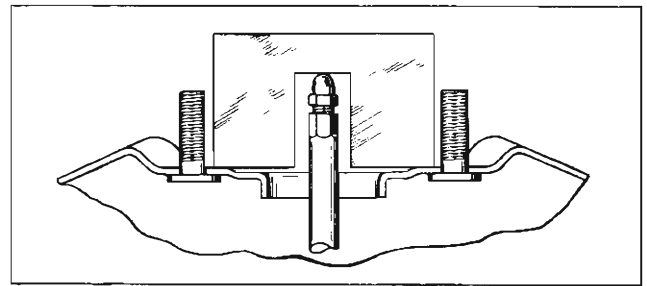

Fig. 22—Adjustment of Push Rod
15. Place Tool J-7723-01 over the push rod so that it fits between studs on front shell (fig. 22). Gauge should be parallel to studs and resting on surface of front shell. Cutout portion of gauge should just match height of push rod. Any variation may be compensated for by turning adjusting screw.